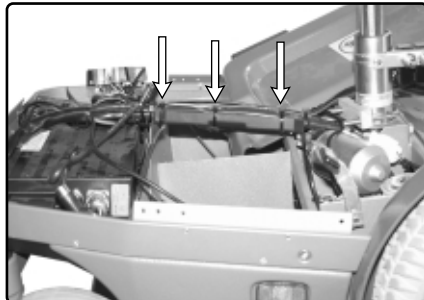

Fig. 2. On older models there is a cable strip fitted with a cable tie
2. On older models there is a cable strip fitted with a cable tie, remove this, see Fig. 2.